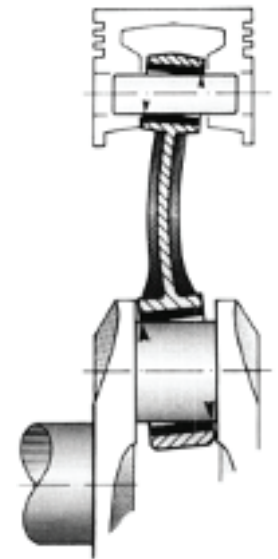

Figure 1
- There are marks of asymmetrical operation at the contact surface of the piston skirt. (Figure 1)